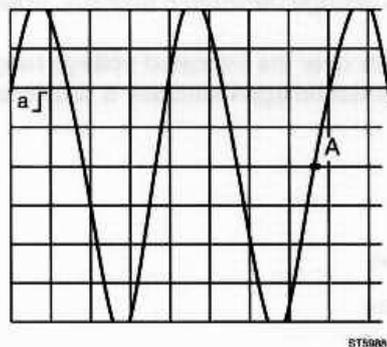

Figure 4.9 Trigger level indication on screen
- E Press the TRIGGER key. Use the select/adjust keys to verify that the trigger level range is more than 8 divisions (4 divisions up and 4 divisions down). The selected trigger level is shown on the display (reversed indication "◊ LEVEL"). Also the trigger level indication, marked with an A \lrcorner will shift, while shifting the trigger level. See figure 4.9.